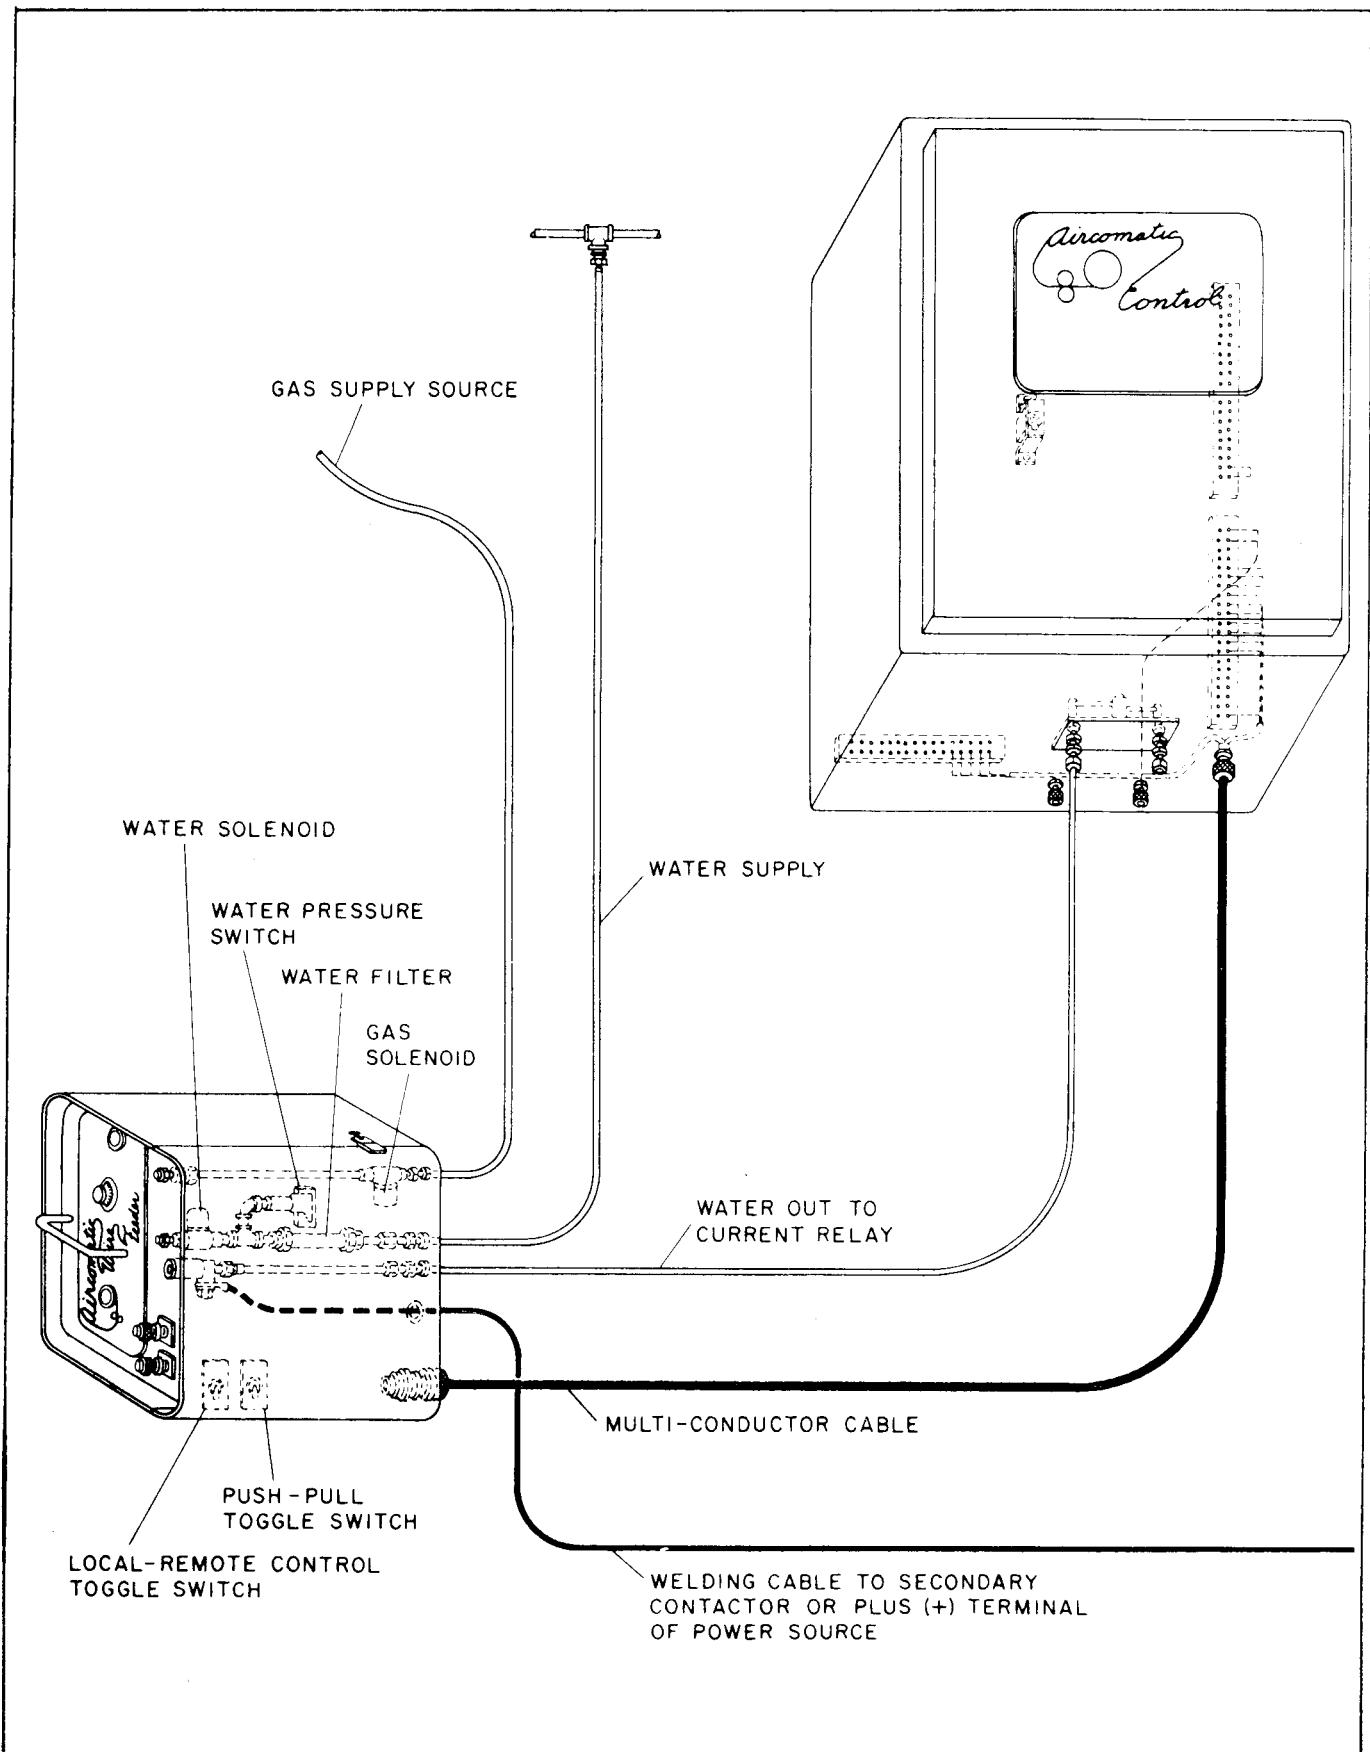

Figure 7. Interconnection Diagram
a. The Feeder is interconnected (Fig. 7) with a Control, welding power source, gun, and (if power source does not contain a primary contactor) a secondary contactor. This requires two water hoses (water-cooled guns only), a gas hose, a multi-conductor cable, and a contactor-to-feeder cable (or power source to feeder). One of the water hoses (water-out-to-relay) and the multi-conductor cable are supplied in a hose and cable kit available in three sizes as shown in Table II. The other water hose is a customer-furnished,